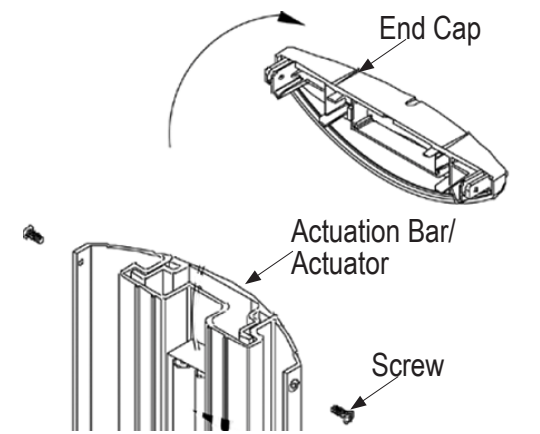

Figure 4.1 End Cap Removal
2. Carefully pull out the Actuation Bar and place it aside to prevent any surface damage. (See Figure 4.1)